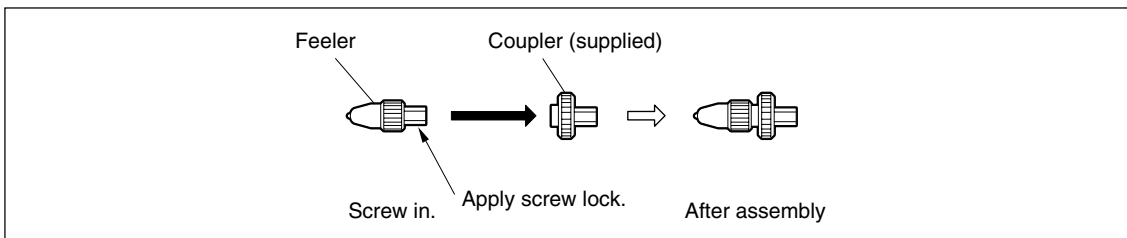

Fig. 3 Assembly of the feeler
1. Remove the feeler from the probe, and screw it onto the supplied coupler (Fig. 3). Be sure to apply screw lock or other adhesive to prevent loosening of the feeler. Tighten the feeler by hand. Do not use pliers or other tools.